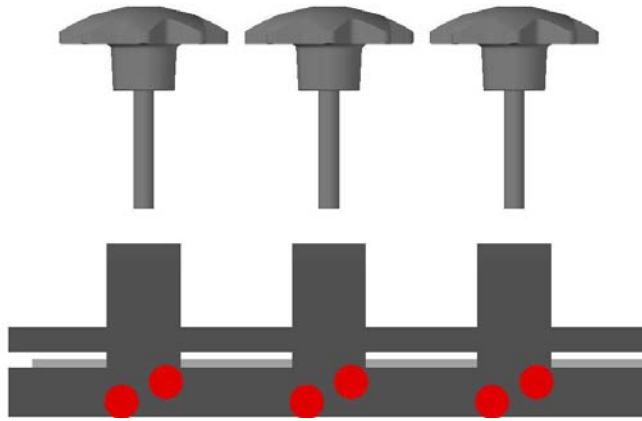

FIG 4
9. Place the jaws in the Cushion Setting Tool. (REF FIG 4)